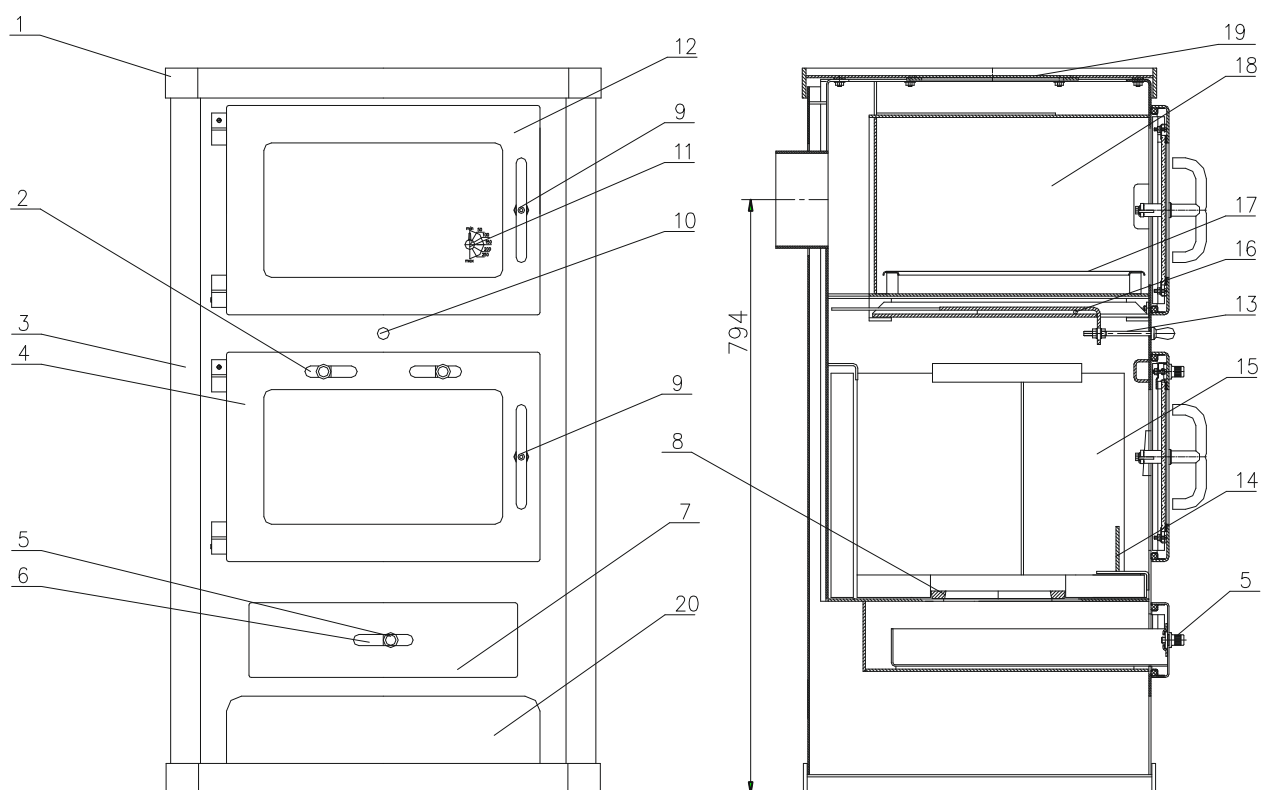

Fig. 1.
- **The niche is decorative and it's not allowed to store easy combustible materials (Poss.20, Fig.1).**
The air needed for the burning process is controlled from the handle (Fig. 1, Poss.5). Closed at position "0", and open at maximum at the opposite side (Tabl. 2).
Primary air is used for quicker ignition of the stove. The primary air passes through the ash pan, the bottom grate and goes into the firebox. Adjusting of the primary air during the burning process is performed by air regulator (Fig.1, Poss.6). When the stove is connected to a chimney with high draft, it is recommended the regulator to be in closed position.) The ashtray (Fig.1, Poss.7) should not be left fully filled. If full, it will prevent the primary air to get in the combustion chamber. It is necessary to clean the ashtray regularly. **The ashtray is cleaned only when it is cold.**